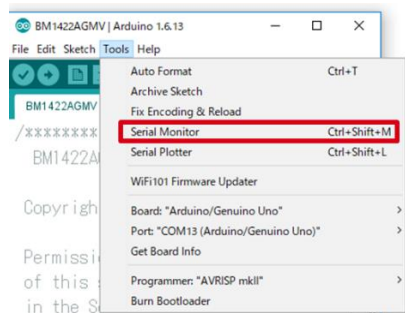

Figure 6. Tools Setting
4. Select [Tools]->[Serial Monitor] (Figure 6)